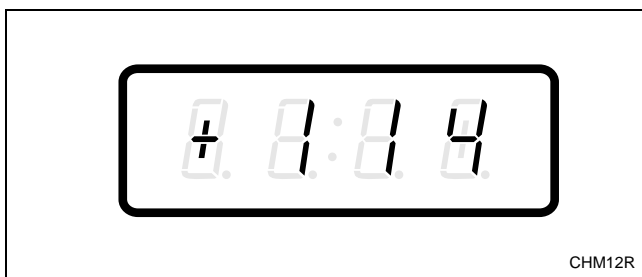

Figure 187
3. Press the DELICATES (+) or the COLD (-) keypad to scroll through the programmable options until “+114” appears in the VFD. Refer to *Figure 187*.